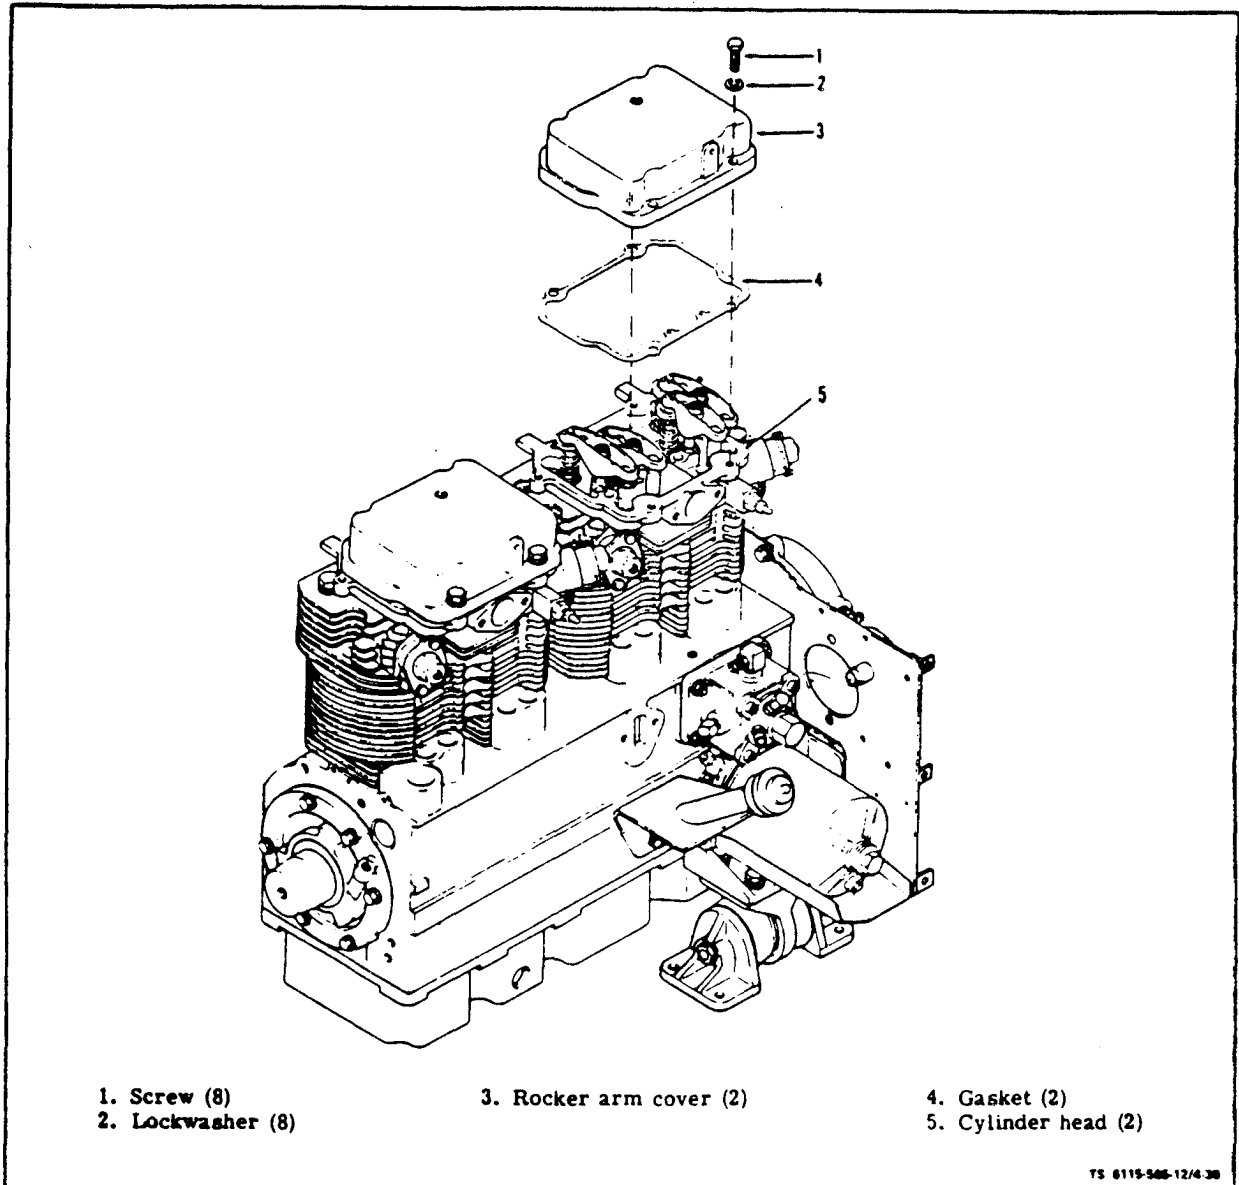

Figure 4-38. Rocker Arm Covers
a. Inspect (see figure 4-38). Inspect rocker arm cover (3) for dents or other physical damage. Check for leaks especially at the gasket (4) between cover and cylinder head (5). Check that cover (3) is securely attached to cylinder head with screws (1) and lockwashers (2).
b. Remove. Remove shroud (13, figure 3-9) per paragraph 4-17b. Remove four screws (1, figure 4-38) and lockwashers (2) attaching each rocker arm cover (3) to cylinder head (5) and remove cover carefully. Clean gasket (4) from both cover and cylinder head.
d. Replace. Place gasket (4, figure 4-38) in position on each cylinder head. Install each rocker arm cover (3) to cylinder head and secure with four screws (1) and lockwashers (2). Tighten screws 7 to 8 ft-lb.